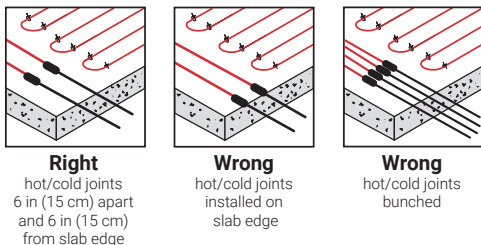

Figure 7: Positioning hot/cold joints
- Position hot/cold joints 6 in (15 cm) in from edge of snow melted area and spaced at least 6 in (15 cm) apart from each other (do not bunch hot/cold joints – see Figure 7).
- Verify that the hot/cold joints are 6 in (15 cm) in from the edge of snow melted area, are not bunched together, and spaced at least 6 in (15 cm) apart from each other (see Figure 7).